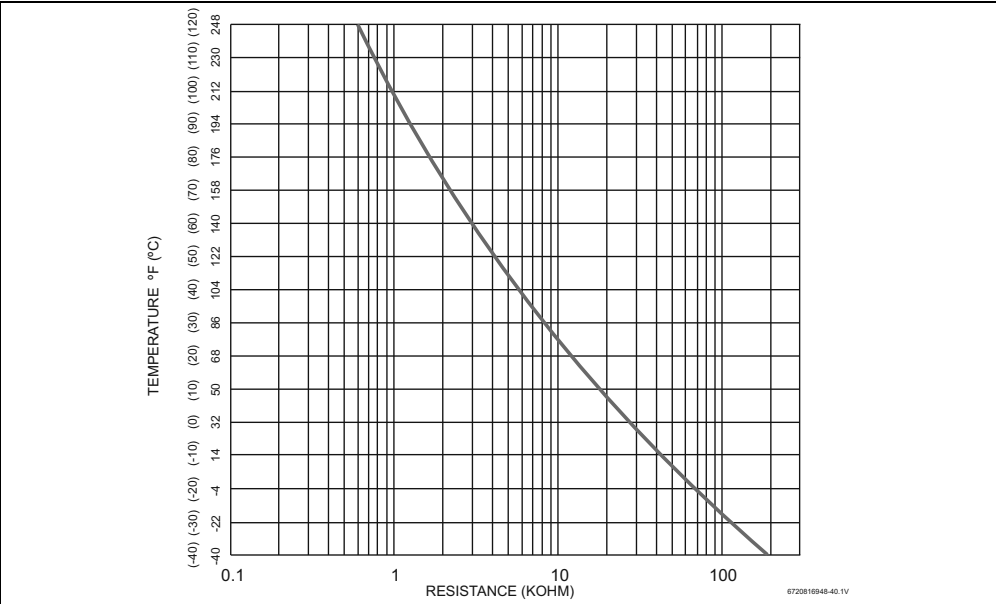

Fig. 65 Inlet, outlet and heat exchanger water temperature sensors characteristics
- 2) See temperature resistance charts in fig. 65 and 66.